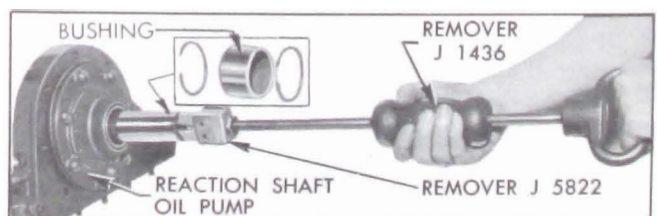

Figure 5-80—Removing Input Shaft Bearing
2. Inspect the input shaft bushing in front end of reaction shaft. If bushing is damaged or excessively worn, remove outer retaining ring and then remove the bushing, using remover J-5822 installed on remover J-1436. See Figure 5-80. Oil pump must be in place to support the reaction flange during bushing removal.